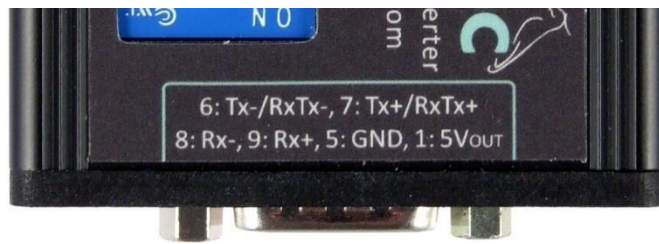

Fig. 9 – connector on SB485C
**SB485C:** The **RS485/422** line is connected via a D-SUB 9M connector (Cannon 9 male plug). The connection is illustrated in Fig. 9.